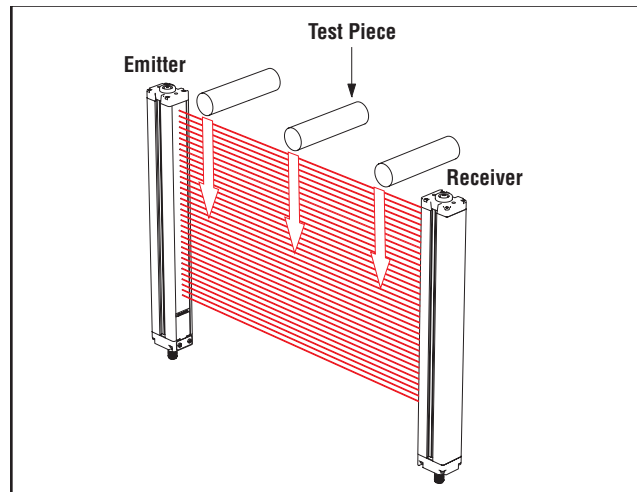

Figure 3-14. EZ-SCREEN trip test
3. Pass the specified test piece through the defined area in three paths: near the emitter, near the receiver, and midway between the emitter and receiver (Figure 3-14).